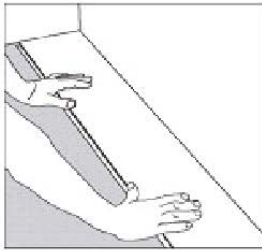

Figure 1
1. Starting from the **left** with the tongue facing the wall, carefully place the first board in place. **(Figure 1)**